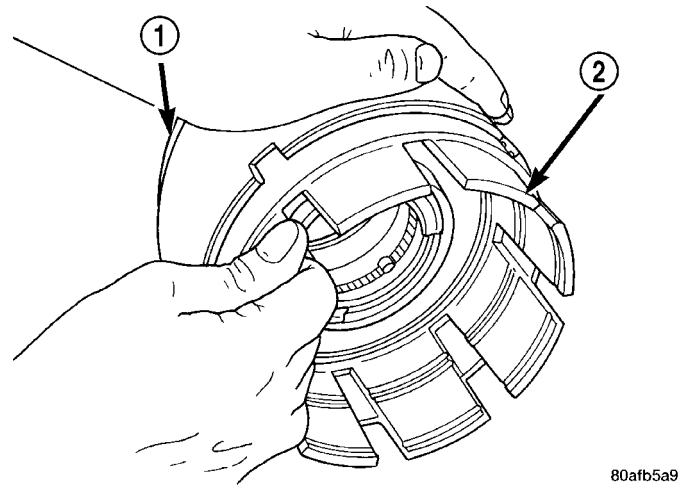

Fig. 208 Pull Retainer from Piston
(17) Separate clutch retainer from OD/Reverse piston (Fig. 208).